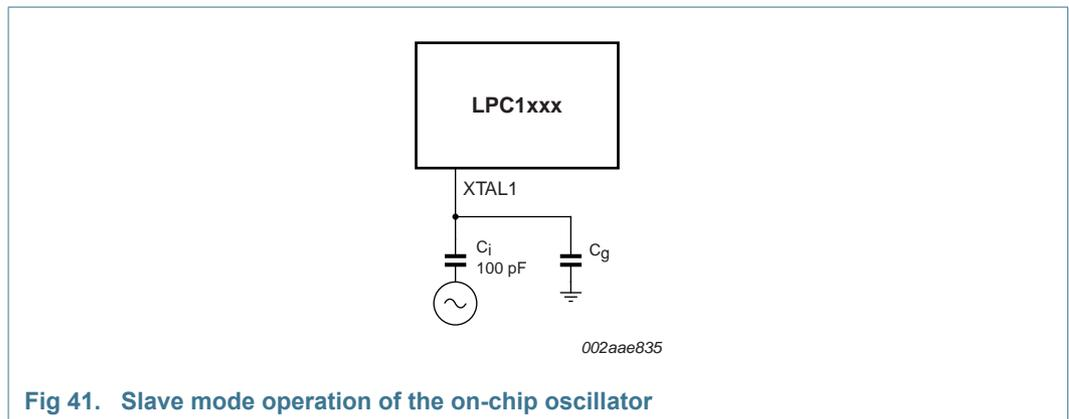

Fig 41. Slave mode operation of the on-chip oscillator
- In slave mode, couple the input clock signal with a capacitor of 100 pF ( $C_C$  in Figure 41), with an amplitude of at least 200 mV (RMS). The XTAL2 pin in this configuration can be left unconnected.